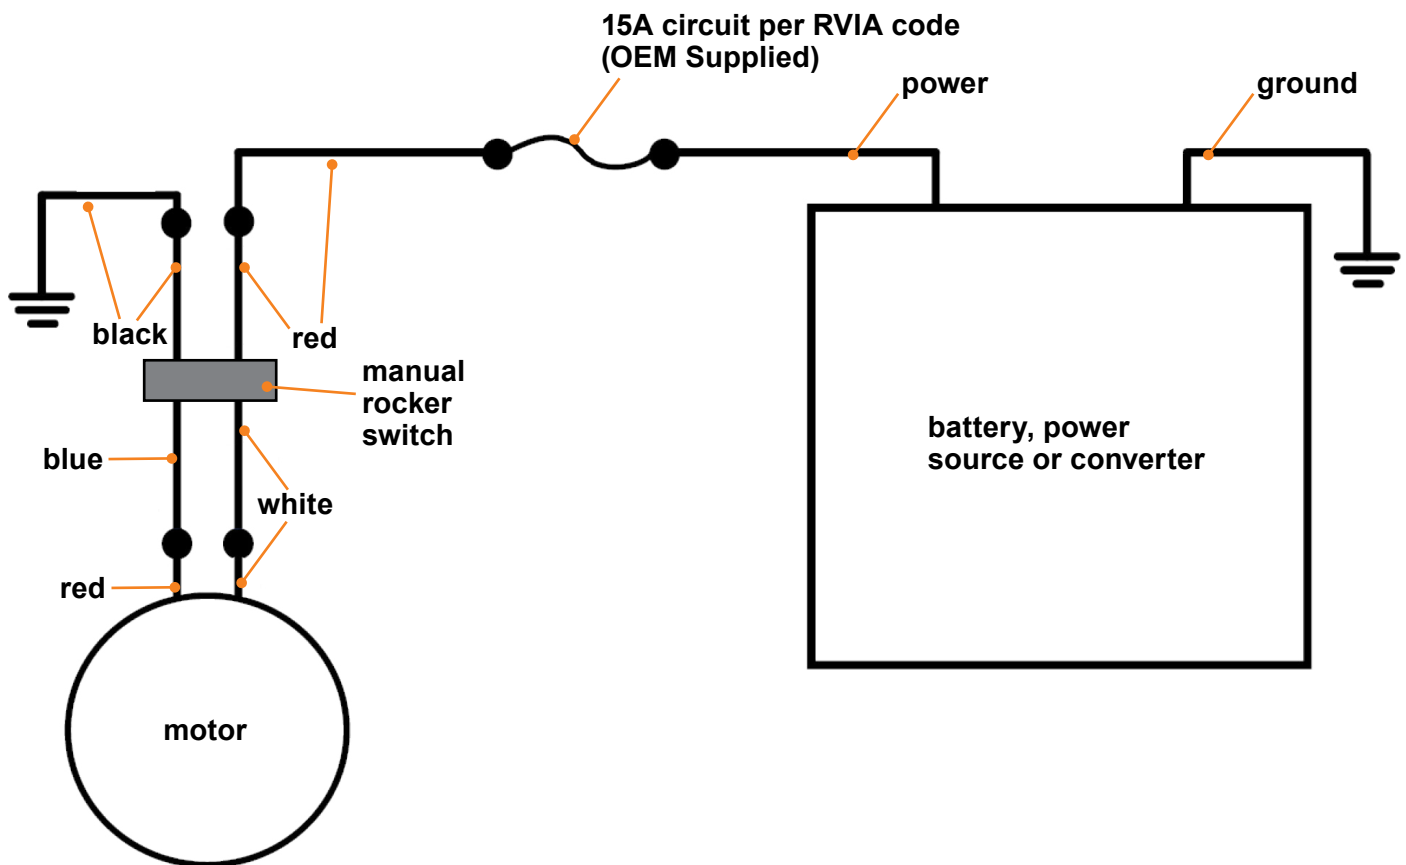

Fig.28
2. Connect wiring from the unit to the switch and the awning drive head per the wiring diagram below (**Fig.28**).